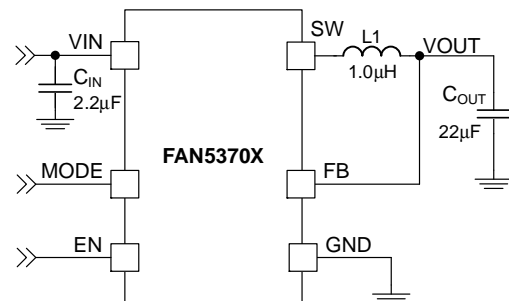

Figure 1. Typical Application
**Table 8. SYSTEM CHARACTERISTICS** Recommended operating conditions, unless otherwise noted,  $V_{IN} = 2.3\text{ V to }5.5\text{ V}$ ,  $T_A = -40^\circ\text{C to }+85^\circ\text{C}$ ,  $V_{OUT} = 1.8\text{ V}$ . Typical values are given at  $T_A = 25^\circ\text{C}$ ,  $V_{IN} = 3.6\text{ V}$ . System characteristics are based on circuit per Figure 1.  $L = 1.0\ \mu\text{H}$ ,  $2.3\text{ A}$ ,  $107\text{ m}\Omega$  DCR, DFE160810S-1R0M (TOKO),  $C_{IN} = 1 \times 2.2\ \mu\text{F}$ ,  $6.3\text{ V}$ , 0402 (1005 metric), C1005X5R0J225M050BC (TDK) and  $C_{OUT} = 1 \times 22\ \mu\text{F}$ ,  $6.3\text{ V}$ , 0603 (1608 metric), C1608X5R0J226M080AC (TDK).